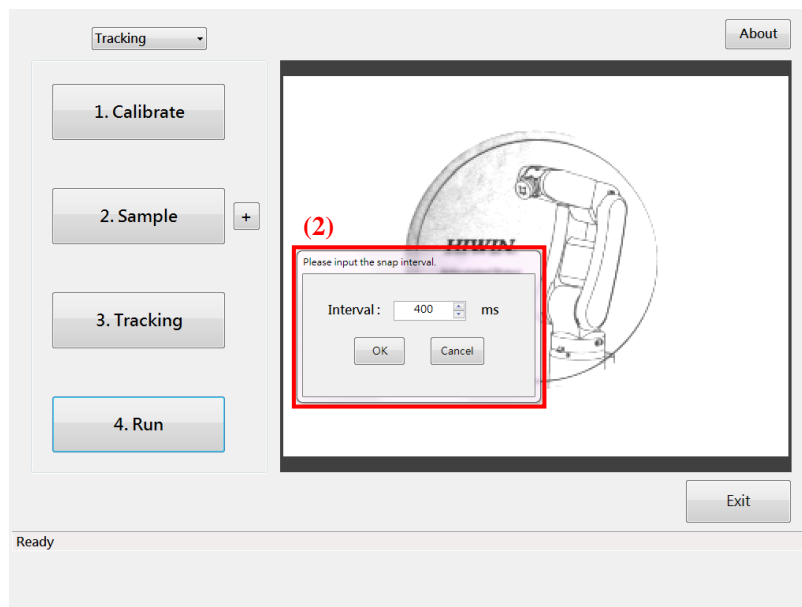

Figure 9-6 Input image capture interval
- (2). As shown in Figure 9-6, if you are in the conveyor tracking pick and place application mode, you need to input the image capture interval. After the input is completed, press the "OK" button.